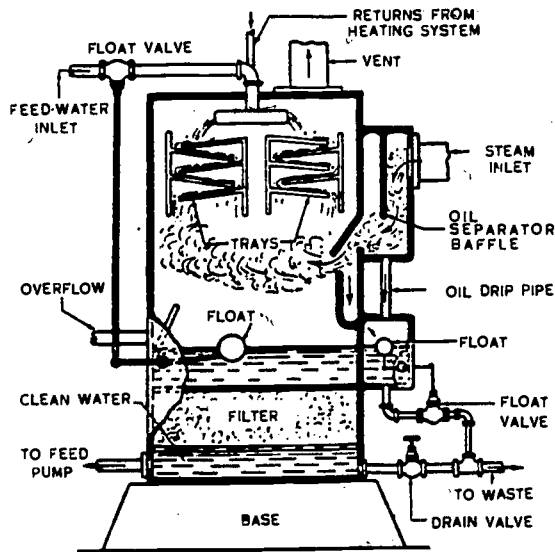

Figure 18. Open-type feed-water heater.
3. **Open-Type Heater.** The open-type feed-water heaters, illustrated in figure 18, heats water by direct contact with the steam. These heaters are usually cylindrical in shape and have an air vent located at the top. Steam enters the side of the heater through an oil separator. The water to be heated, usually from the condensate return, enters at the top and is distributed over the trays in rainfall fashion. The steam comes in direct